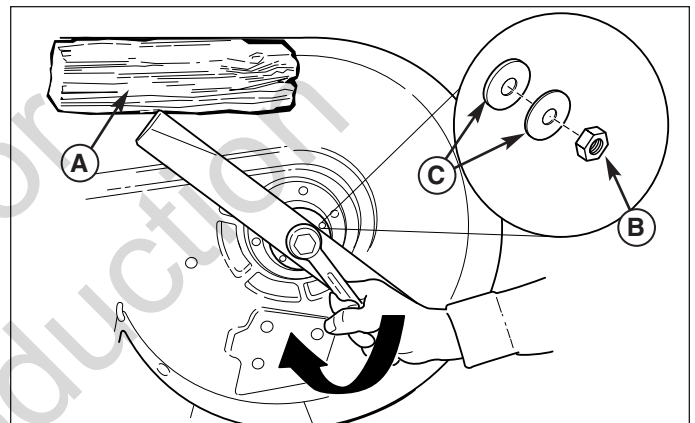
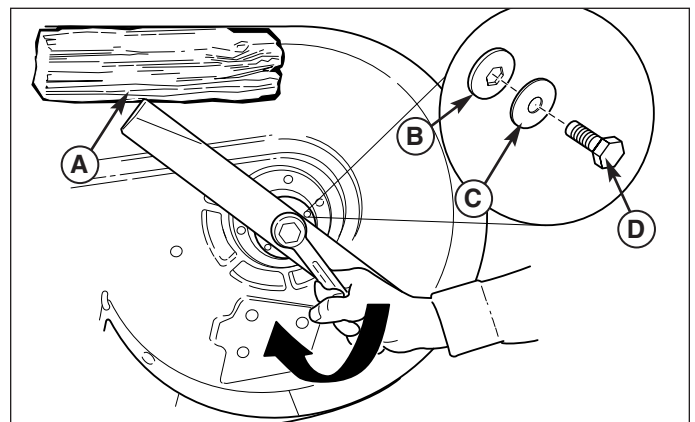

Figure 20. Blade Installation Mowers (42" Mowers)
Figure 21. Blade Installation Mowers (46" Mowers)
3. Remove the nut (C, Figure 20), or spring washers (B), and blade. Or remove the capscrew (D, Figure 21), hex washer (B), spring washer (C), and blade.
6. Reinstall the blade (Figure 21) with the tabs pointing up toward the mower deck as shown.
7. Reinstall the spring washers (B, Figure 20) and nut (C). Use a wooden block (A) to prevent blade rotation while tightening the nut (C) to 70-80 ft-lbs (95-108 Nm). Or, reinstall the hex washer (B, Figure 21), spring washer (C) and capscrew (D). Use a wooden block (A) to prevent blade rotation while tightening the nut (D) to 45-55 ft-lbs (61-75 Nm).